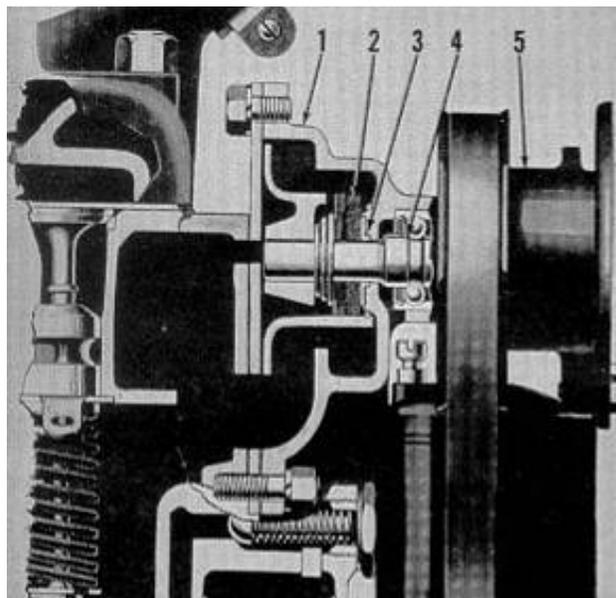

Fig. F039 - Water pump cross sectional view as used on models 2N-9N
47. To disassemble pump, remove back cover plate and press fan pulley (5 – Fig. F039) off shaft and bearing assembly (4) using a suitable puller. Remove bearing retainer snap ring from front of pump body and press shaft and bearing assembly forward and out of impeller and impeller pump body. Remove snap ring from impeller, then composition seal washer, spring retainer and spring from impeller hub. Renew worn or damaged parts including bushing (3) in pump body. The bushing must be flat over its entire face area and square within .001 to provide a satisfactory sealing surface. Bushing face may be resurfaced if not worn or grooved enough to require renewal. Reassemble parts as shown and reinstall pump.